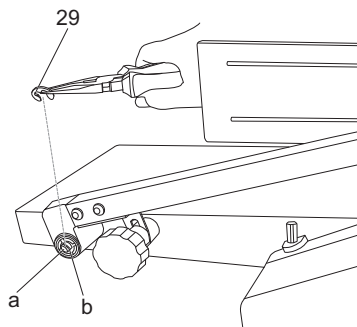

Fig. 10
- > Align the opening of the retaining collar (29) with the sharp-nose pliers (not supplied) to the groove (b) on the blade guard locating pivot pin (a), then push down the retaining collar (29), and secure it to the groove (b). (Fig. 10)